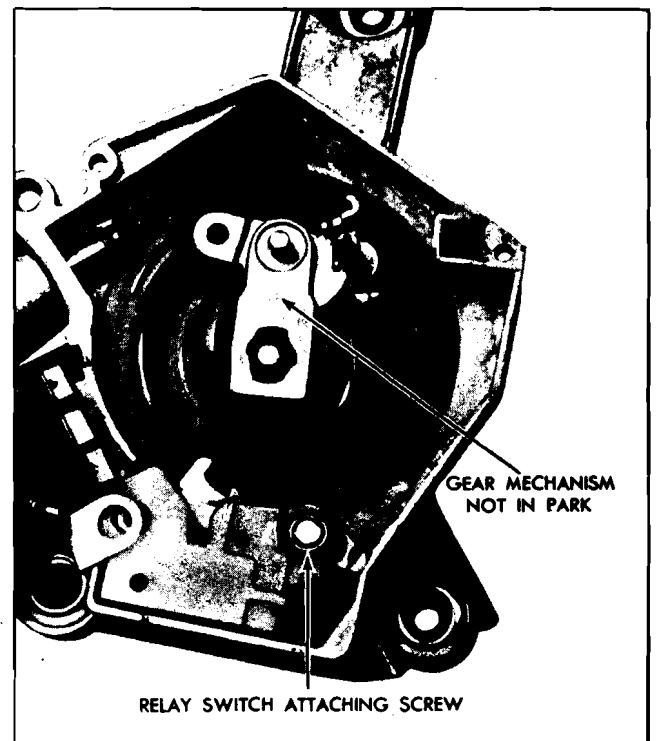

Fig. 12A-6 Checking Latch Arm Switch - Depressed Park
a. Remove relay-switch attaching screw (Fig. 12A-6) and carefully lift relay-switch out of gear box.
- a. Remove relay-switch attaching screw (Fig. 12A-6) and carefully lift relay-switch out of gear box.